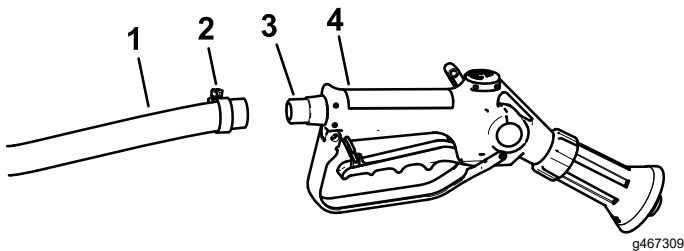

Figure 39
2. Connect the free end of the long hose to the fitting on the spray gun (Figure 39).